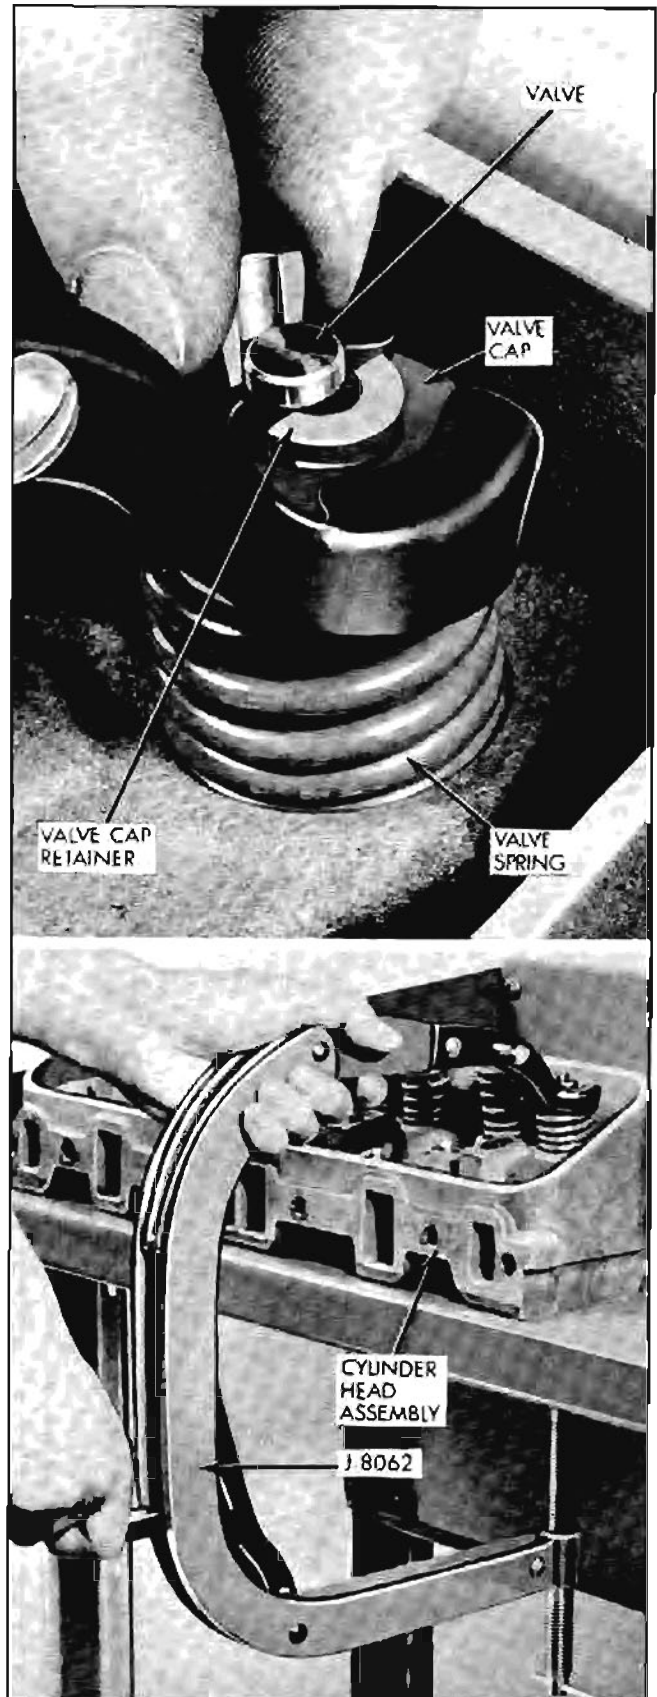

Fig. 6-83 Compressing Valve Spring
5. Using suitable spring compressor, compress valve spring and remove cap retainers. Release tool and remove spring and cap (See Fig. 6-83).